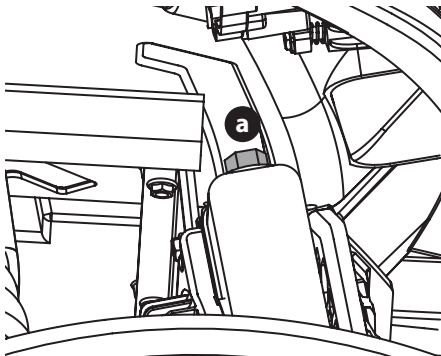

Figure 34
- Remove the bleeder screw (a) on the radiator, fill the radiator and when fluid begins to come out of the bleeder screw hole, replace the bleeder screw (a). The bleeder screw (a) can be accessed via the front right wheel well (Figure 34).